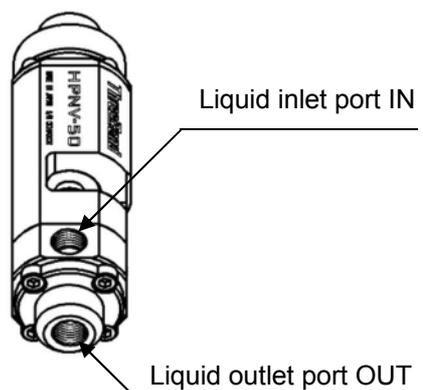

Fig. 8
- Liquid inlet port IN: Rc 1/4 (see Fig. 8)
- Liquid outlet port OUT: Rp 1/4 (see Fig. 8)